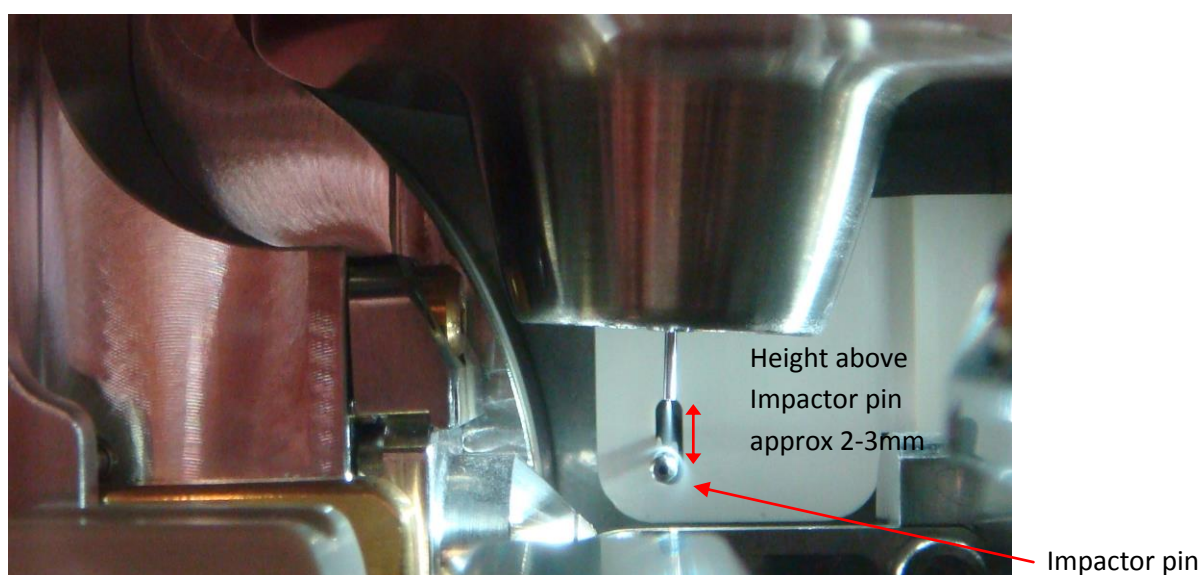

Figure 2. Position of probe tip relative to the impactor pin.
4. The height and lateral position of the probe tip relative to the Impactor pin should be optimised while introducing the analyte into the mobile phase using combined mode on the instrument fluidics. The optimum height is approximately 2-3mm above the Impactor pin with the spray hitting just to the right of centre of the Impactor pin (figure 2).